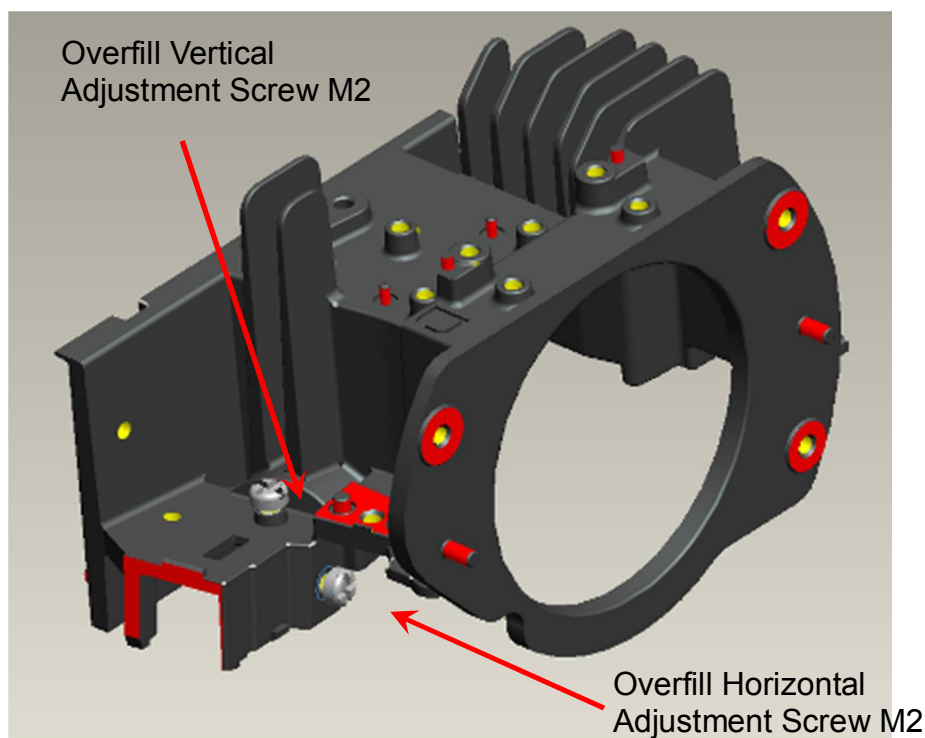

Fig. I-1
- i. Assembly two Overfill adjustment screws (M3) to HSG DMD (Fig. I-1).